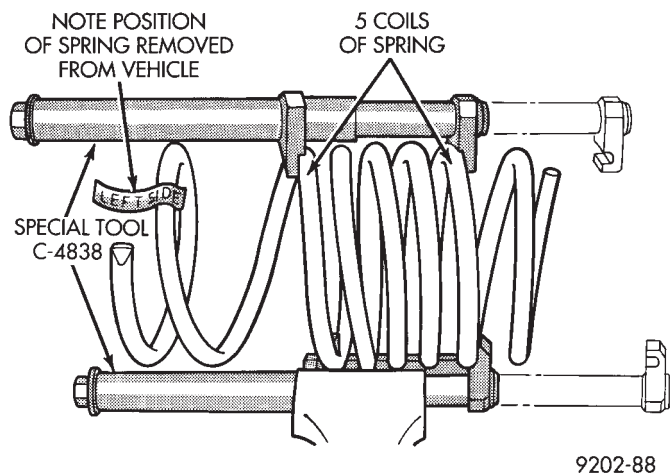

Fig. 8 Identifying Coil Springs
(3) Remove the upper strut mount from the strut assembly.
(4) Remove coil spring from the strut assembly. **Mark spring for installation back on the same side of the vehicle (Fig. 8).**
Springs are rated separately for each side of vehicle depending on optional equipment and type of service. During service procedures where both springs are removed, mark springs (Chalk, Tape, etc.) (Fig. 8) to ensure installation in original position. If the coils springs require replacement. **Be sure that the springs needing replacement, are replaced with springs meeting the correct load rating for the vehicle and its specific options.**
During service procedures requiring the removal or installation of a coil spring with Spring Compressor, Special Tool C-4838. It is required that five coils be captured within the jaws of the tool (Fig. 8).